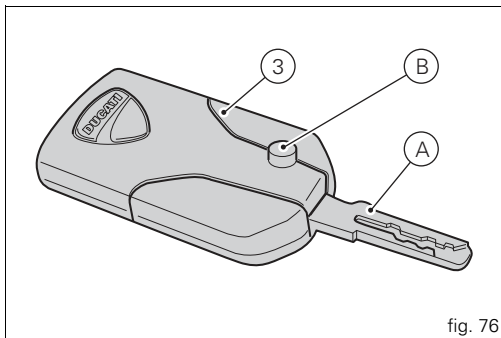

fig. 76
The metal part (A) of the key (3) remains hidden inside its housing, it exits by pressing the button (B, fig. 76).
With the vehicle in Key-On and "engine off", if the presence of the active key (3, fig. 76) is not detected for thirty consecutive seconds, the motorcycle will turn off automatically without any action by the rider.